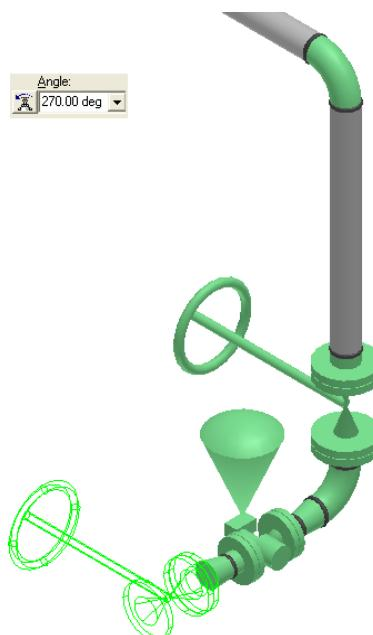

Figure 3. 86: Outlined Gate Valve in the Graphic View
33. Select the **Gate Valve** option in the **Type** drop-down list and key in **270 deg** in the **Angle** drop-down list on the **Insert Component** ribbon to rotate the gate valve so that the operator is facing the north direction, as shown in Figure 3. 86.
35. Select the **Tee** option in the **Type** drop-down list and key in **0 deg** in the **Angle** drop-down list on the **Insert Component** ribbon to rotate the tee so that port 3 is pointing upwards, as shown in Figure 3. 87.